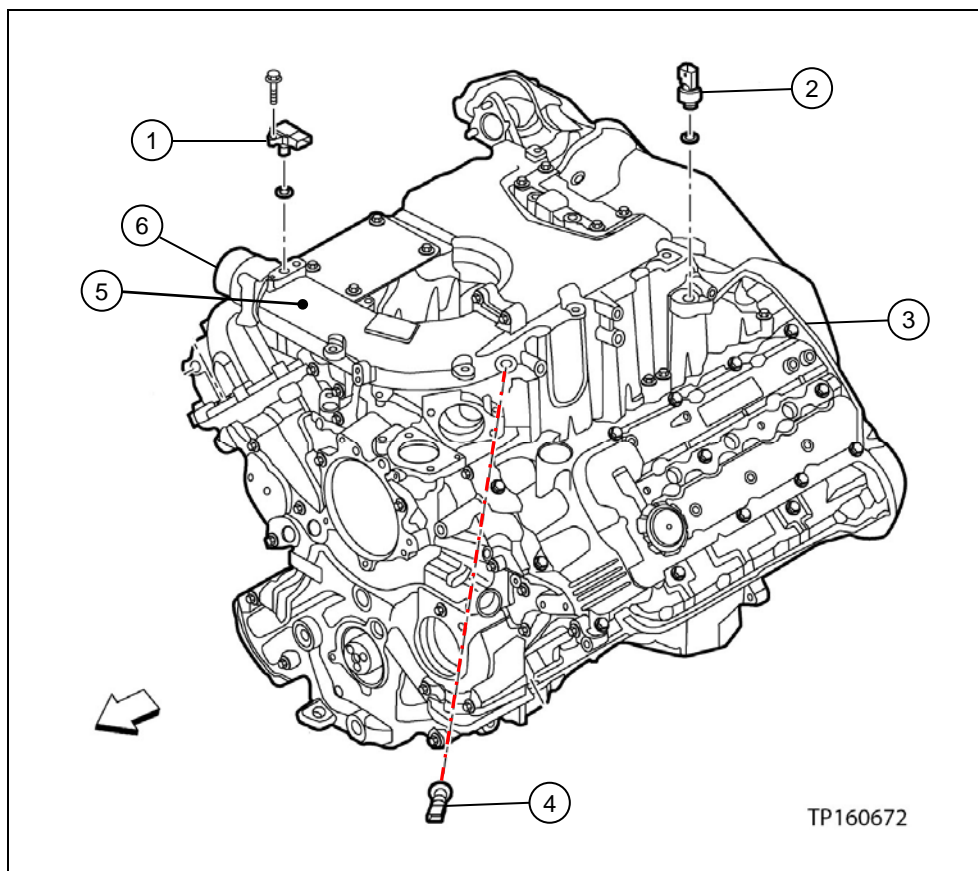

Figure 1D
- g. Air intake connection (page 54, Figure 1D, # 5): This part will be reused. Clean out excessive oil and/or debris.
- h. Air intake connection adaptor (page 54, Figure 1D, # 6): This part is fastened to the air intake connection and does not need to be removed. It will be reused. Clean out excessive oil and/or debris.
- i. Exhaust pressure sensor tube (page 54, Figure 1D, # 3): This part will be reused. Clean out excessive oil and/or debris.
- j. Exhaust gas pressure sensor (page 54, Figure 1D, # 2): If oil residue is found, replace it.
- L. Intake manifold temperature sensor (page 54, Figure 1D, # 4): If oil residue is found, replace it.